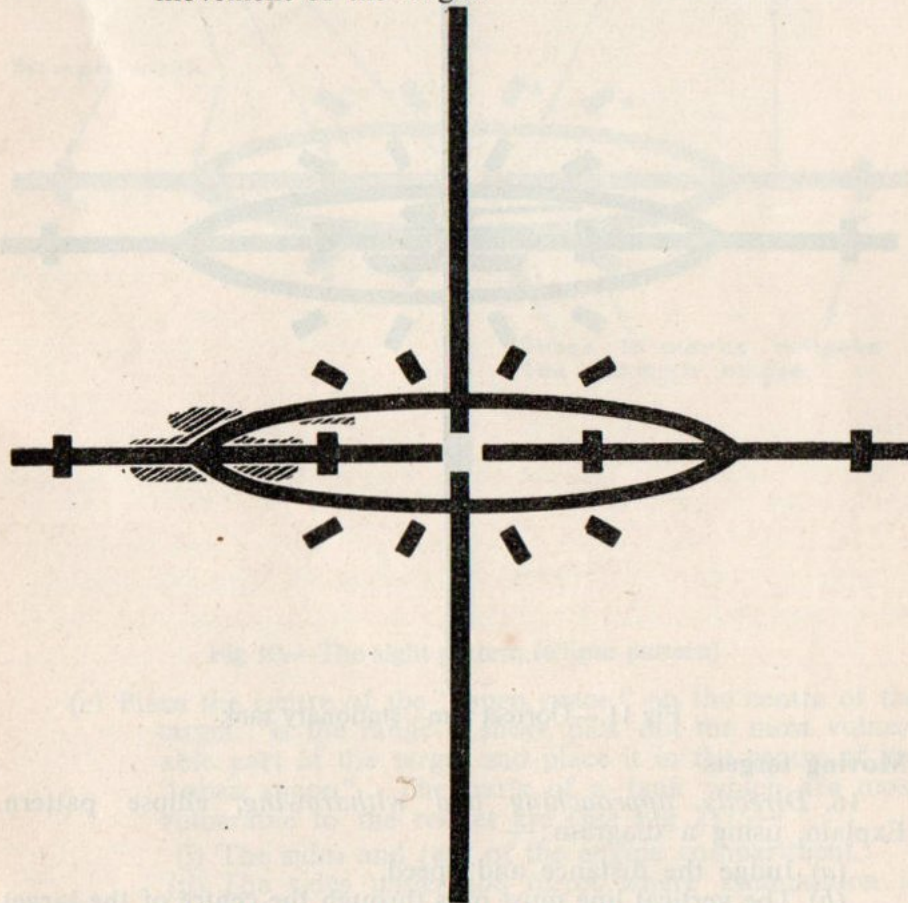

Fig 12.—Correct aim—crossing tank—20 mph
19. *Direct crossers, ellipse pattern.* Explain, using a diagram (see Fig 12):—